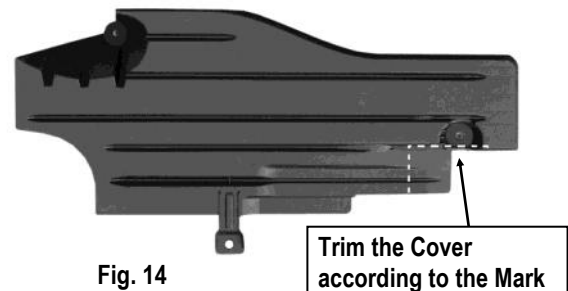

Fig. 14
- Carefully cut the plastic cover to clear the Bracket, (Fig. 14 & 15).